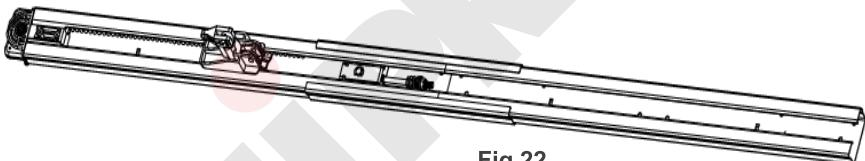

Fig 22
2. Two steel track and a sleeve (Fig.22).